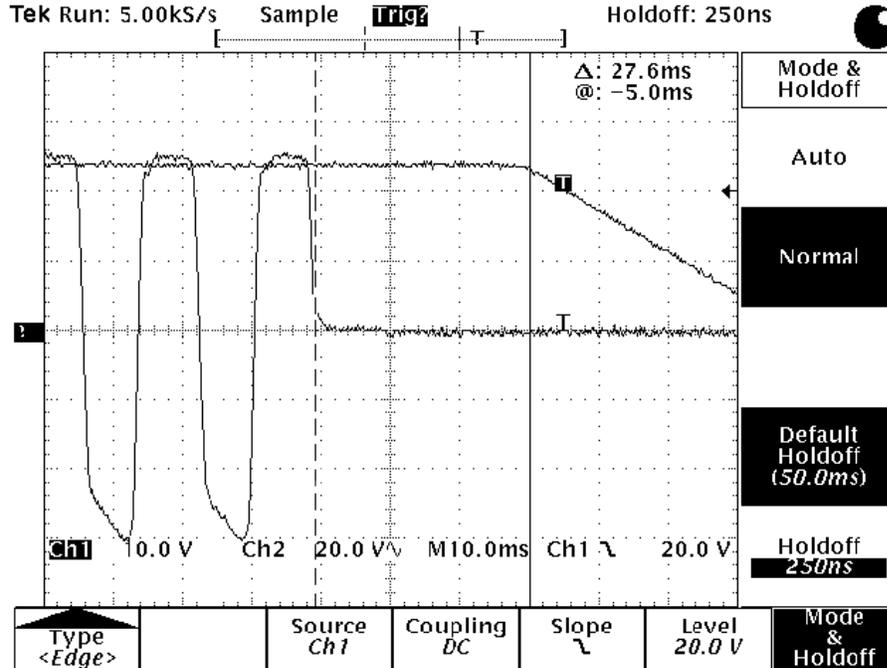

Figure 4: Holdup Time
- 4.7.3 Find out where you are within the cycle, to make sure you have zero crossing correct to within ± 1 milliseconds. Turn the AC source off. The oscilloscope should have triggered as the output voltage decreased below the trigger threshold. The oscilloscope should display the AC and DC waveforms similar to the sample plot in Figure 4.
- 4.7.4 The holdup time is the time duration of when the AC input voltage is removed to the time until the output voltage falls below the minimum specification. The AC input voltage shall be removed within ± 1 milliseconds of the zero crossing. This is shown in Figure 4 by the two vertical cursors. Record the holdup time.